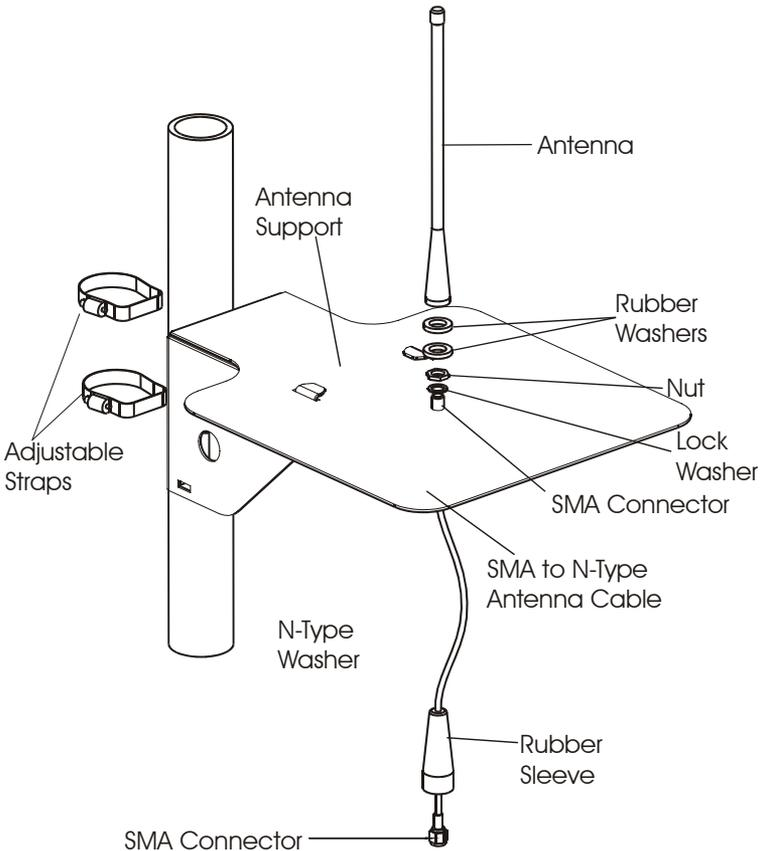

Figure 29
1. Connect a flexible antenna to the antenna support plate using rubber washers, lock washer and a nut (see Figure 29).